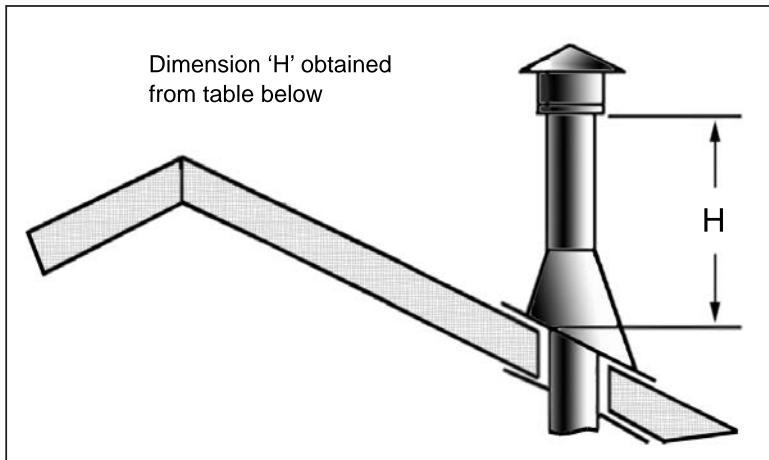

Figure 71: Height of Vertical Termination; Reference Table 9
- Step 4.** Measure roof pitch. Select the proper flashing and storm collar and determine the height above the roof (see Figure 71). A non-corrosive pipe material must be used for all exterior pipe lengths. Seal nail heads with silicone.
Table 9: Minimum 'H' for Figure 71.